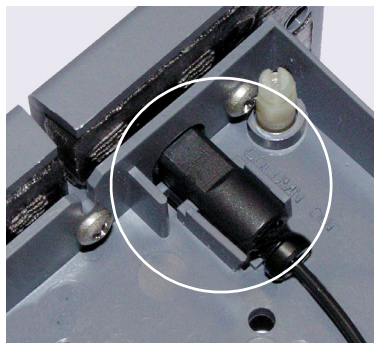

Figure 10-49. Separator Column Outlet Fitting
6. Remove the guard column (if present) and separator column from the column clips. Lift up the separator column outlet fitting (see Figure 10-49) slightly to free it from the clips, and then slide it out of the tray.